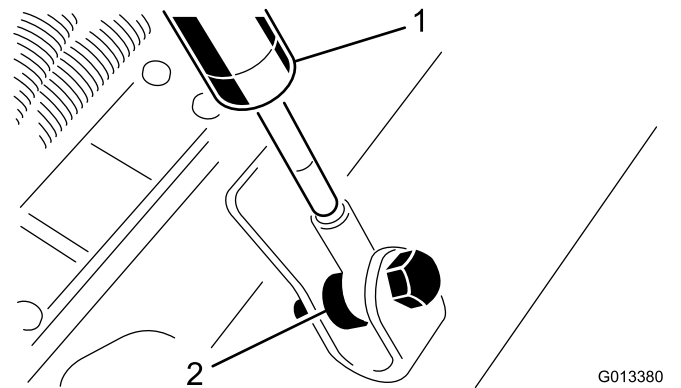

Figure 6
7. Remove the bolts, spacers and flange nuts securing the other end of the dampers to the cutting unit (Figure 6).